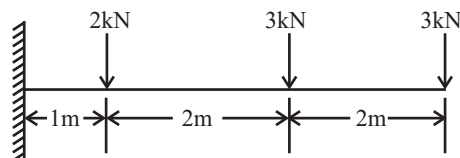

Fig 12.18
Q.15: Draw the SF and BM diagram for the beam as shown in fig 12.18. Also indicate the principal values on the diagrams.